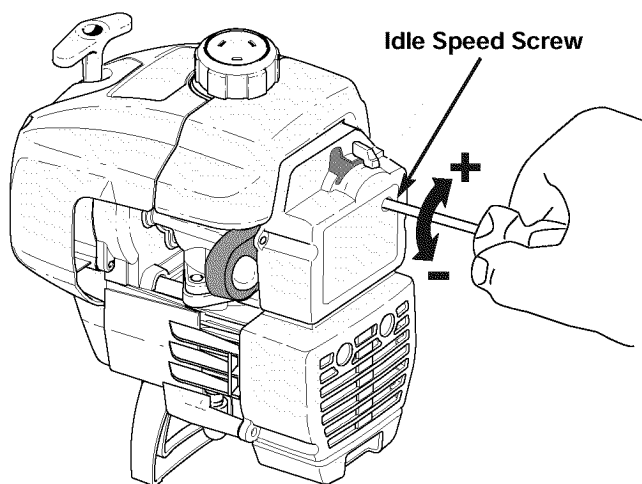

Fig. 34
The idle speed of the engine is adjustable through the air filter/muffler cover (Fig. 34).
2. Release the throttle trigger and let the engine idle. If the engine stops, insert a small phillips or flat blade screwdriver into the hole in the air filter/muffler cover (Fig. 34). Turn the idle speed screw in, **clockwise**, 1/8 of a turn at a time (as needed) until the engine idles smoothly.